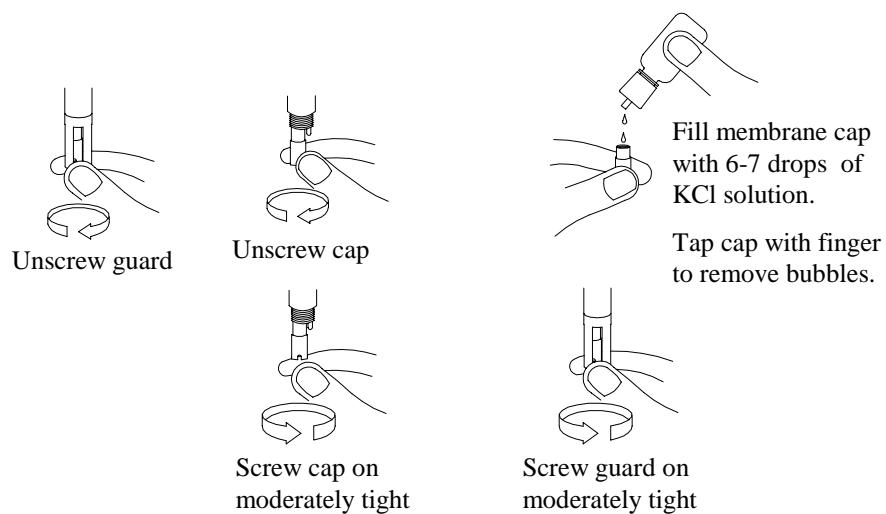

Figure 1
1. Unscrew and remove the probe guard. See Figure 1.